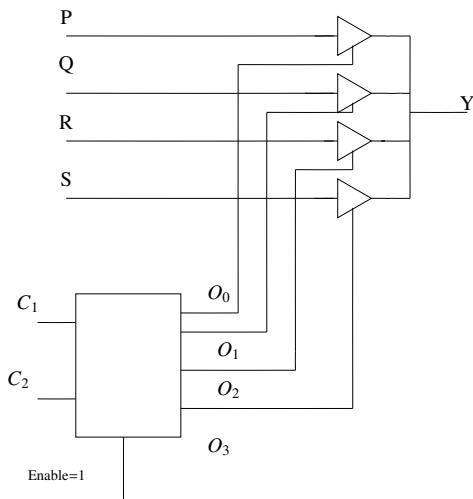

Fig. 3.28: Multiplexer
47. The functionality implemented by the circuit below in Fig. 3.28 is